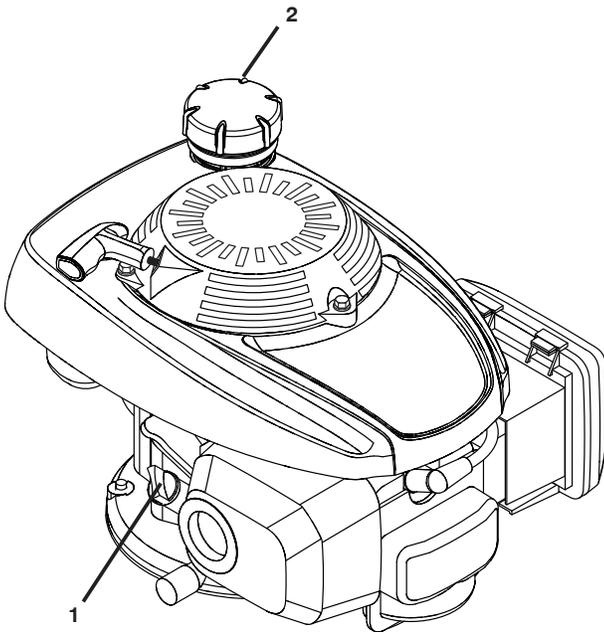

Figure 15
2. Remove oil fill cap/dipstick from oil fill spout (Figure 15).
IMPORTANT: Fill fuel tank to bottom of tank filler neck. Do not overfill. Use fresh, clean, regular unleaded gasoline with a minimum of 87 octane. Do not mix oil with gasoline. Purchase fuel in quantities that can be used within 30 days to assure fuel freshness (Figure 15).